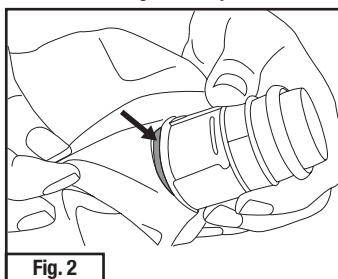

Fig. 2
**NOTE: Before** installing the S-950 suspension, examine the suspension and locate the groove located between the air duct sealing ring (i.e. gasket) and the blue airflow adjustment mechanism. The fabric of the hood must be pulled past the lip of the air inlet and seated in the groove (Fig. 2).
Pull the air inlet through the opening in back of the hood. Fabric must be pulled past the lip of the air inlet (located just beneath the blue airflow adjustment mechanism) and seated in the groove just above the air duct sealing ring (i.e. gasket) (Fig. 2).